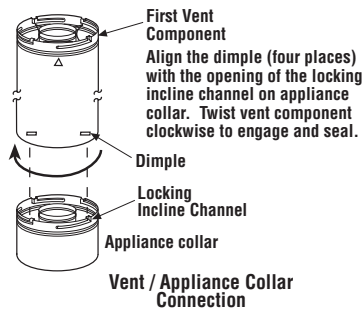

Figure 20
B. Attach vent components to appliance - **Secure Vent SV4.5** direct vent system components are unitized concentric pipe components featuring positive twist lock connections (*see Figure 20*).
To attach a vent component to the appliance collar, align the dimpled end over the collar, adjusting the radial alignment until the four locking dimples are aligned with the inlet of the four inclined channels on the collar (*refer to Figure 20*). Push the vent component against the collar until it fully engages, then twist the component clockwise, running the dimples down and along the incline channels until they seat at the end of the channels.
D. Attach vent components to appliance - To attach a vent component to the appliance collar, align the dimpled end over the collar, adjusting the radial alignment until the four locking dimples are aligned with the inlets of the four incline channels on the collar (refer to **Figure 20 on page 15**).